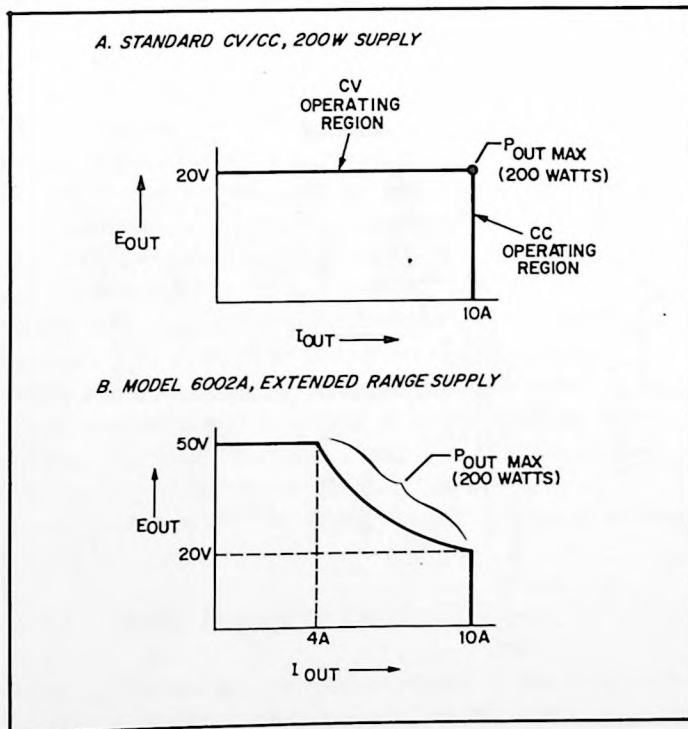

Figure 4-1. Output Characteristics,
4-2 The basic difference between a conventional Constant Voltage/Constant Current (CV/CC) power supply and an extended range supply is readily seen by comparing the output characteristic of each type. Figure 4-1 (A) shows that maximum output power (200 Watts in the example) from a standard supply can be obtained at only one point on its' rectangularly shaped locus. Maximum output power from the 6002A supply, however, is available at many points along a "constant power" curve ranging from a 50V, 4A to 20V, 10A (see Figure 4-1 (B)). Thus, one extended range supply provides maximum output power over a wide range of voltage and current combinations.
4-6 The supply can be divided into three major circuit groups: a series regulator feedback loop, an overvoltage protection "crowbar", and a tap selection and control circuit. A supplementary reference supply is also included to provide regulated and unregulated bias voltages used throughout the supply by the major circuit groups. Both the series regulator feedback loop and the overvoltage crowbar circuit are very similar to those used in many other laboratory type power supplies manufactured by Hewlett-Packard. The tap selection triacs and control logic, however, are related only to extended range power supplies. It is these circuits that govern the extended output characteristic shown in Figure 4-1 (B).
4-26 As mentioned previously, the function of these circuits is to provide the constant power output characteristic shown on Figure 4-1 (B). To accomplish this, the circuit controls the conduction of a pair of triac switches which, in turn, control the raw dc that is applied to the series regulator. A decision to fire one, both, or neither of the triacs is made once during each half cycle of the input ac (8.33 milliseconds) based on the output voltage and current of the supply and the amplitude and frequency of the ac line.